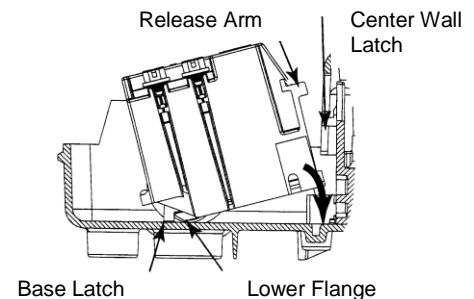

Figure 2
1. **Installing the 97 ADSL POTS Splitter Module Into the 3600/3700:** Open the outer cover on the Outdoor NID by loosening the customer access screw. Install the ADSL POTS Splitter Module into the NID by snapping it into the appropriate line module position (see Figure 2).